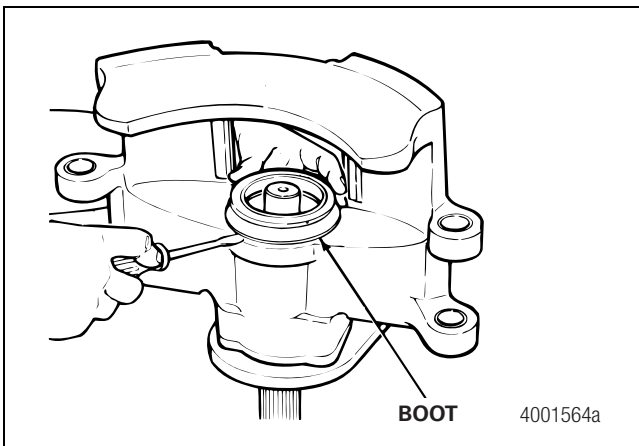

Figure 5.10
11. Use a tool with a thin blade to remove the boot. Discard the boot and use a new boot when you assemble the caliper. Figure 5.10.